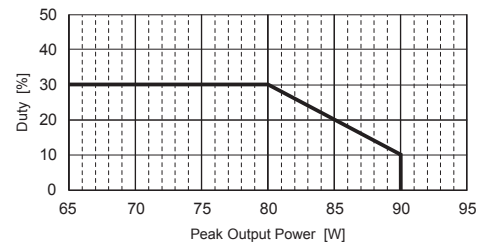

Fig.8.3 Duty of peak output power (TEPS65F)
- $\text{Duty} = \frac{t_1}{t_1 + t_2} \times 100[\%]$ Refer to Fig 8.3 derating